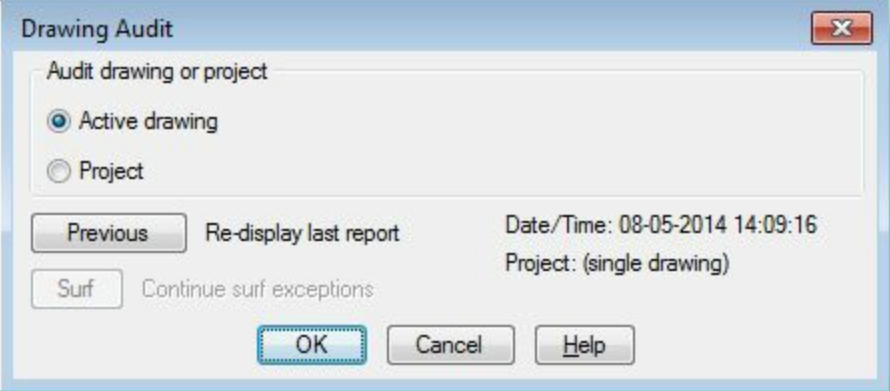

Figure-19. Drawing Audit dialog box
- Click on the **DWG Audit** tool from the **Schematic** panel of the **Ribbon**. The **Drawing Audit** dialog box will be displayed; refer to Figure-19.